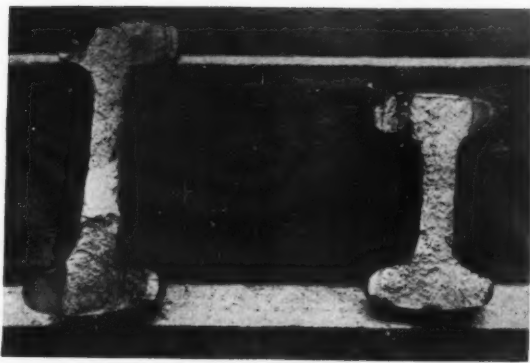

Fig. 6—Forces imposed on connecting rod induce fluctuating stresses
**CONNECTING ROD.** The inertia forces in a large connecting rod, shown in Fig. 6, have caused variable stresses during each cycle of operation of the engine. Forces imposed on the connecting rod by the periodic explosion in the cylinder also induce fluctuating stresses, but for heavy rods the forces causing lateral bending must be properly considered. The cross section is an I-beam but apparently is too light to withstand the fatigue action. An analysis of the stresses in such a problem can quite readily be made with only a very moderate amount of ex-